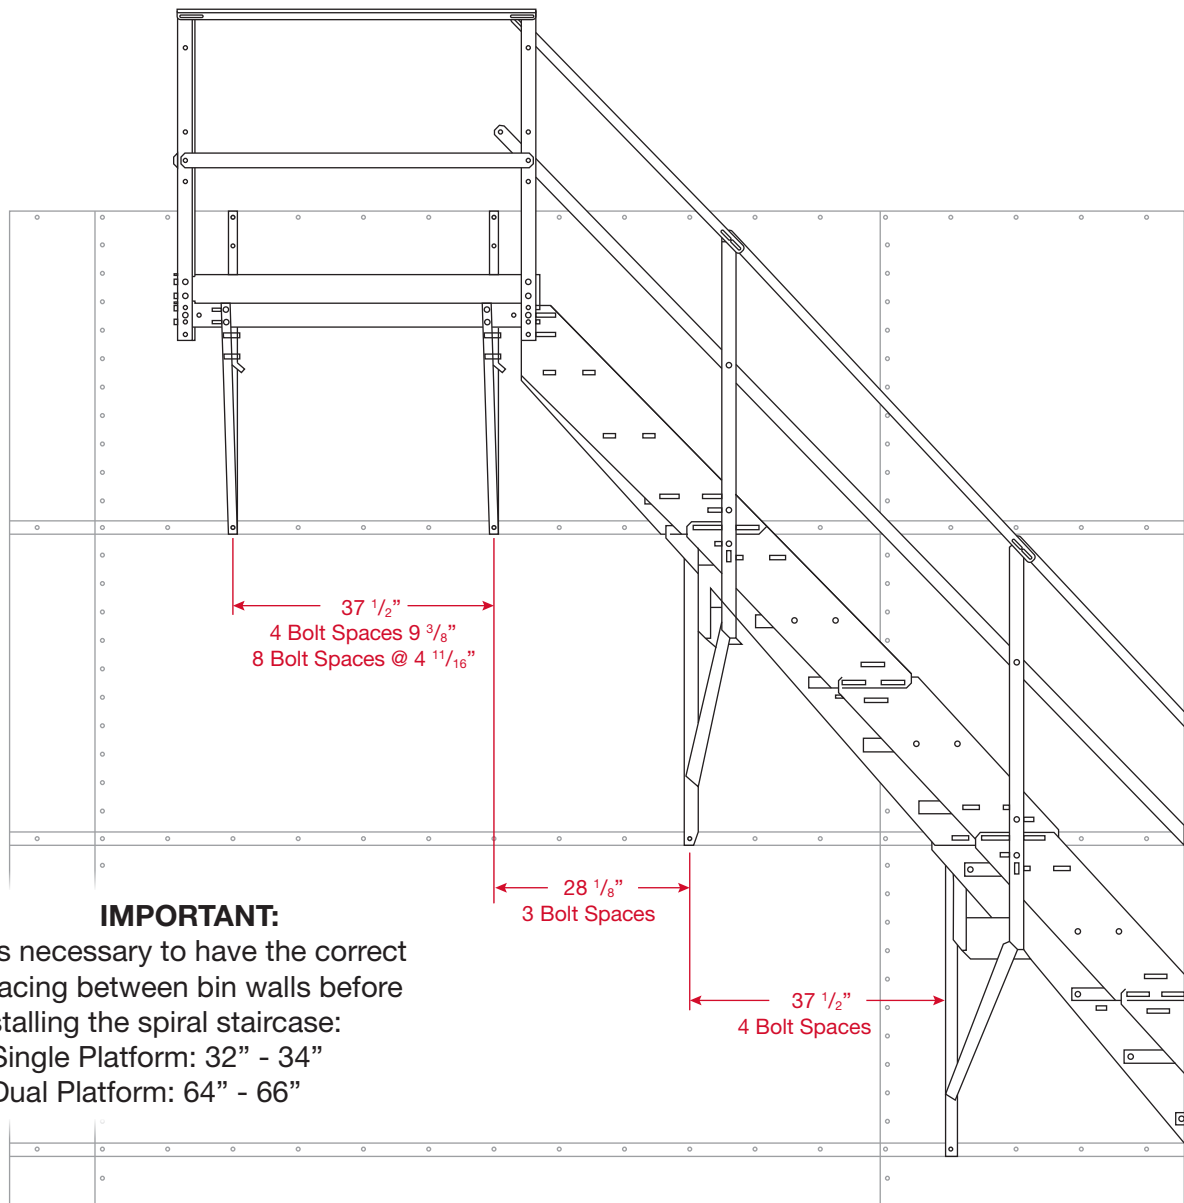

Fig 1 - Platform layout
18. The bin wall brackets call for one bolt at the top and bottom of the bracket on the horizontal bolt seam, see Figure 1.